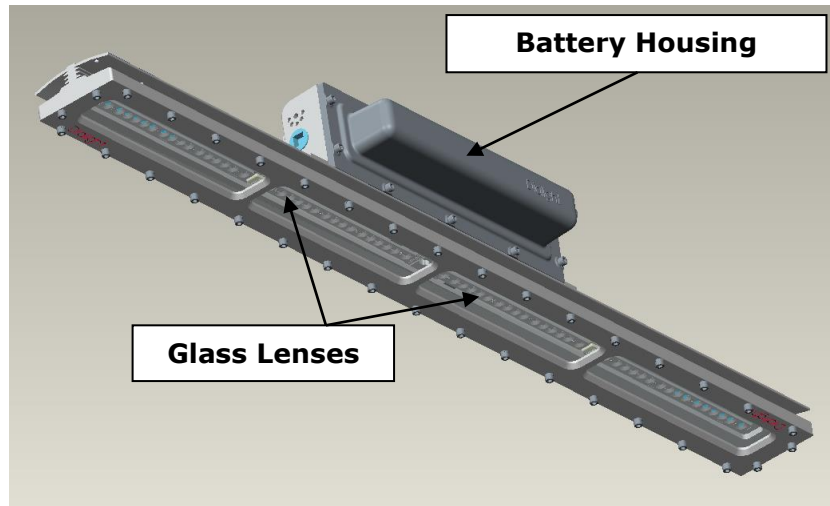

Figure 3
- The lens (Figure 3) requires periodical cleaning to ensure continued photometric performance. Clean the lens with a damp, non-abrasive, lint-free cloth. If not sufficient, use mild soap and water.